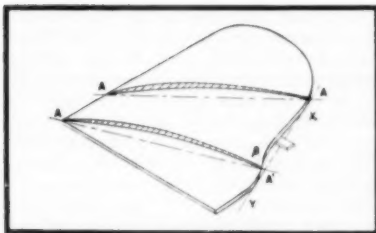

Fig. 16. Showing curvature of soundboard and taper toward edges. (Courtesy J. Acous. Soc. Am.)
(1) The soundboard was made thinner at the edges in accordance with a parabolic curve, as shown in Fig. 16 at AA. This increased the compliance at the edges about 20 per cent, and caused the soundboard to vibrate more nearly like a diaphragm, hence the term *diaphragmatic soundboard*.
(2) Owing to the crown in the soundboard after it is glued to the ribs, the portion between X and Y is in a plane higher than the rest of the edge. In the past the entire edge was glued to the top of the inner rim of the casing, which all lay in one plane. Hence, the soundboard was subjected to considerable buckling strain. The remedy was to raise the top gluing edge of the inner rim to meet the contour of the soundboard.
(3) The crown in the soundboard causes the bridge to raise the strings up at that point above a straight-line path between the agraffe and the hitch pins. This in turn causes the string to press down on the bridge and hence transmit its vibration to the bridge and associated soundboard, just like the violin and other string instruments.